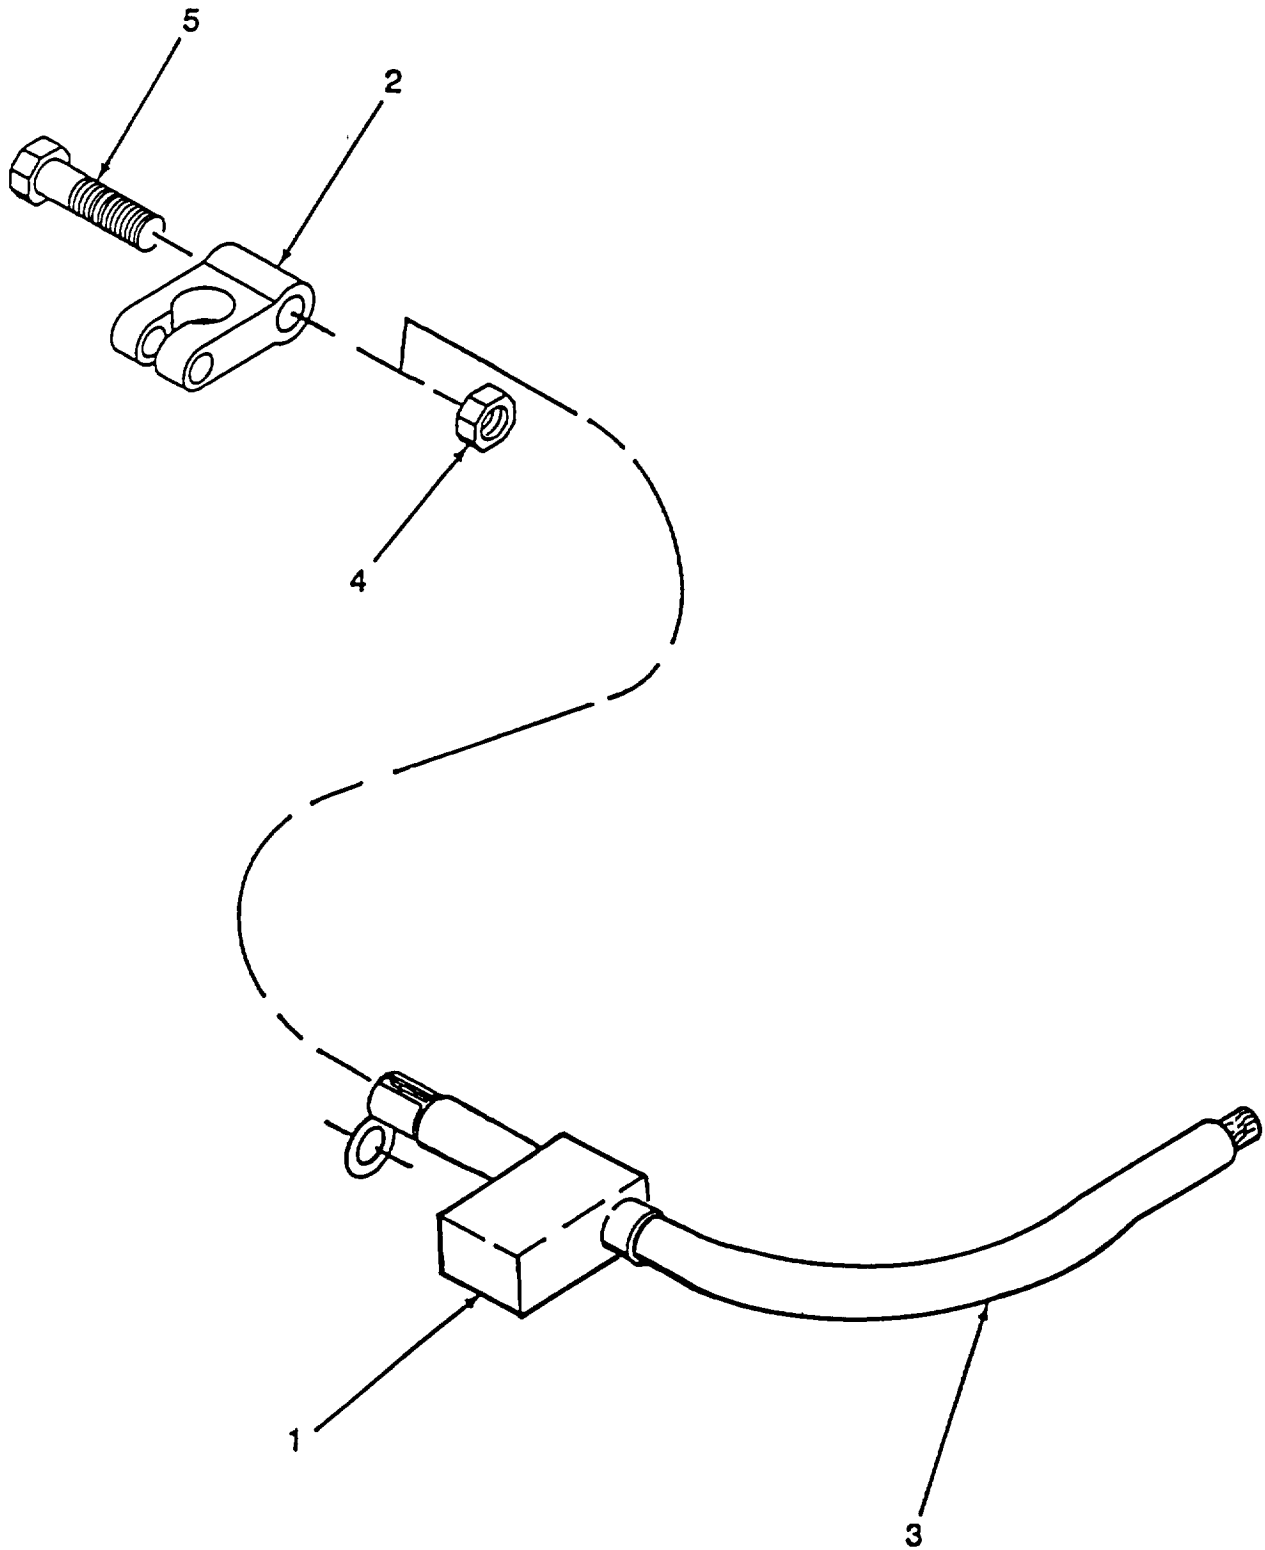

Figure 4-18. Battery Cable Repair
- b. Repair. (Refer to Figure 4-18).